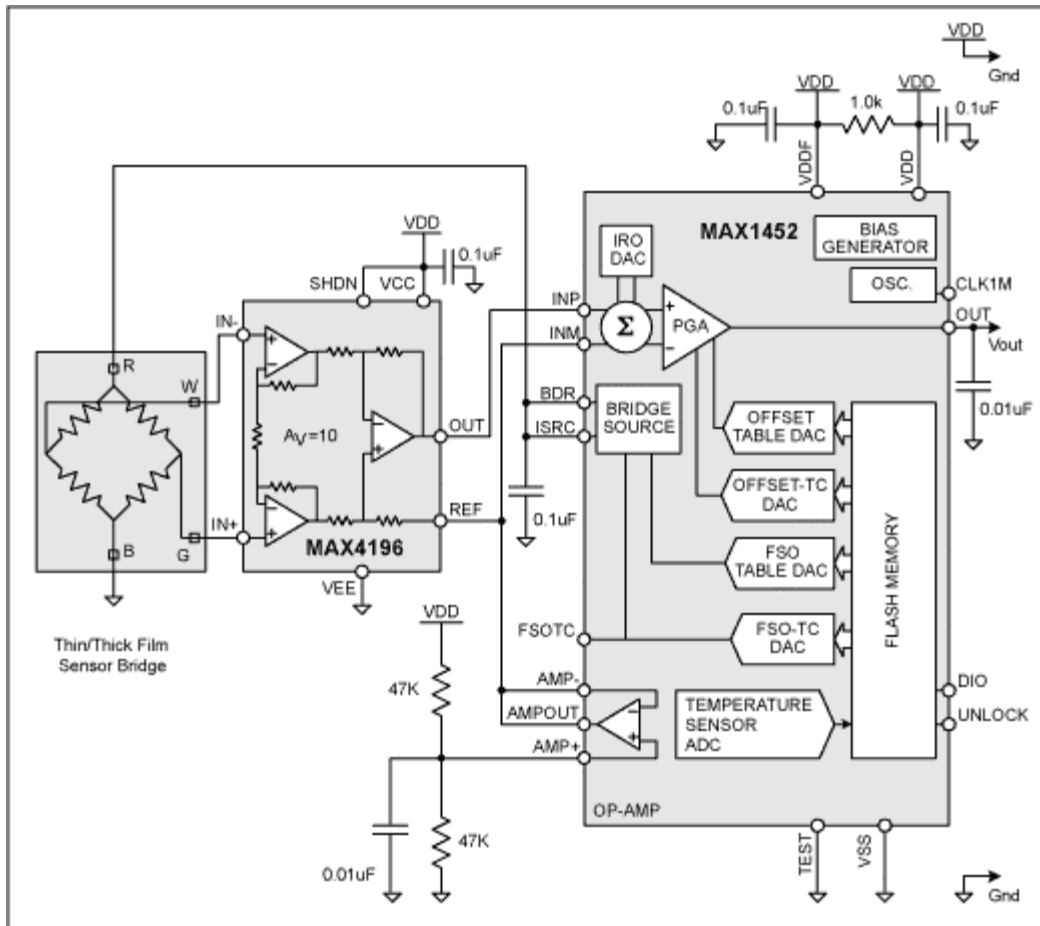

Figure 1. The MAX4196 IA amplifies the sensor signal by a fixed gain of 10.
Using the MAX4196 instrumentation amplifier (IA) as a pre-amplification circuit adds a factor of 10V/V gain to the signal path enabling TF sensor calibration and temperature compensation with the MAX1452. A complete circuit for amplifying and temperature compensating a TF sensor using this architecture is shown in Figure 1.